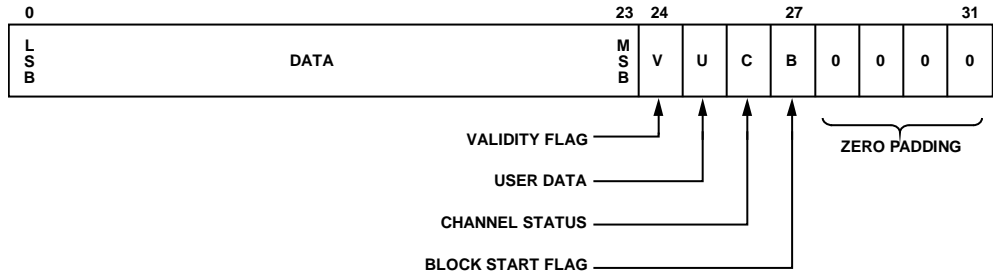
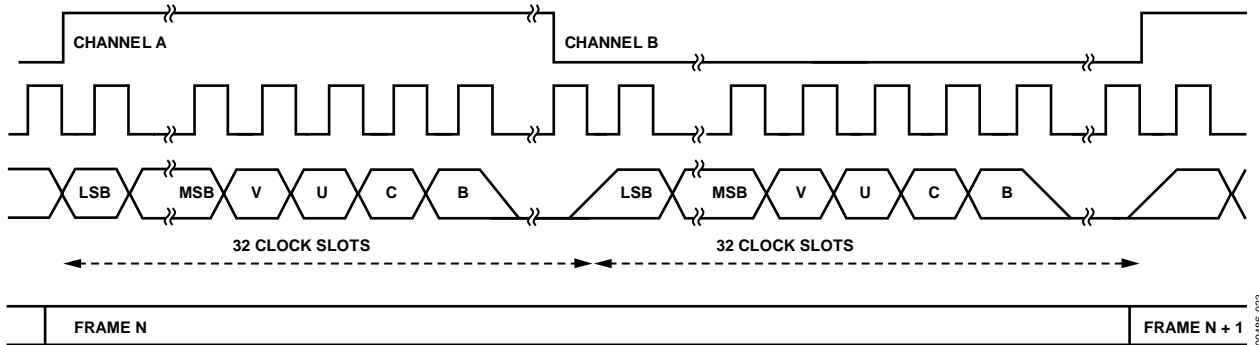

Figure 23. AES3 Subframe Timing Diagram
Figure 24. AES3 Stream Timing Diagram
- An AES3 stream if the **I2SOUTMODE[1:0]** control is set to 0x3 (refer to Figure 23 and Figure 24). Note that AES3 is also referred to as raw SPDIF. Each AES3 stream may encapsulate stereo L-PCM audio data or multichannel non L-PCM audio data (for example, 5.1 Dolby Digital).
- An AES3 stream on each HBR interface output pin (refer to Figure 23 and Figure 24). The following configuration is required to output AES3 streams: